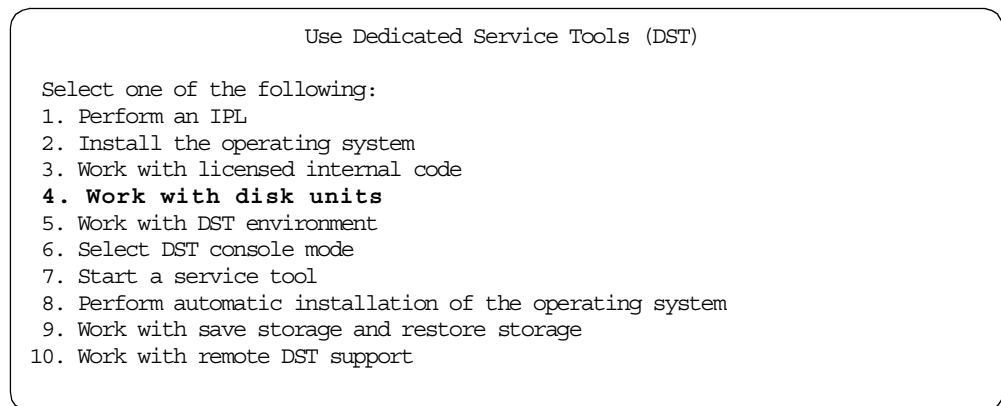

Figure 428. Dedicated Service Tools (DST) main menu display
- When the Use Dedicated Service Tools (DST) menu appears, as shown in Figure 428, select option **4 (Work with disk units)**.